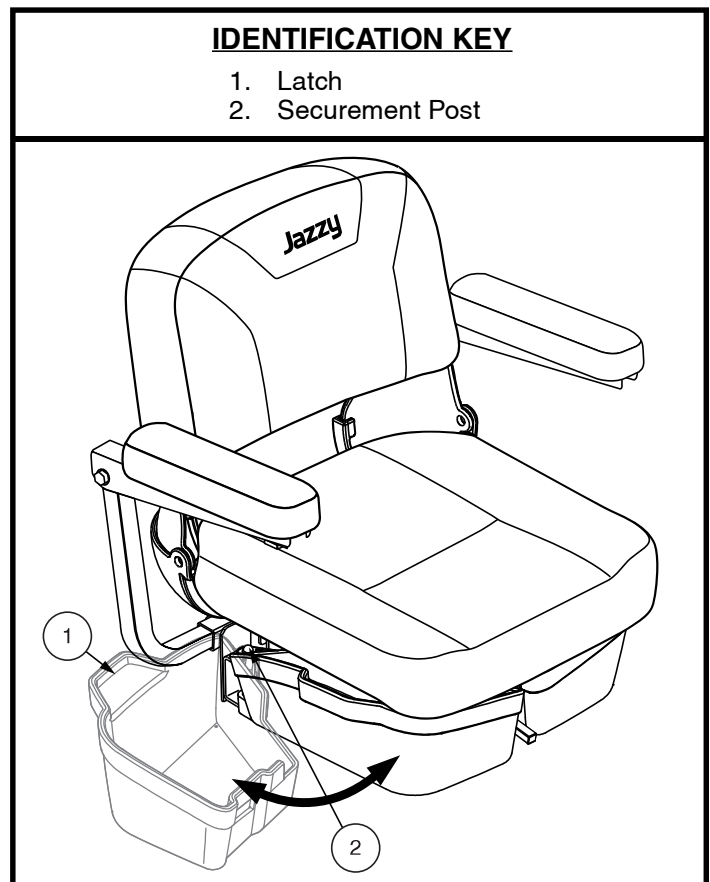

Figure 28. Under-seat Storage
1. Lift up slightly on the latch on the side of the under-seat storage bin (see figure 28) and swing the under-seat storage bin out and away from the Travel Scooter.
1. Lift up slightly on the latch on the side of the under-seat storage bin (see figure 28) and swing the under-seat storage bin out and away from the travel scooter until it is fully open.
2. If equipped, remove under-seat storage. See Figure 28.
7. If equipped, install under-seat storage. **See figure 28.**